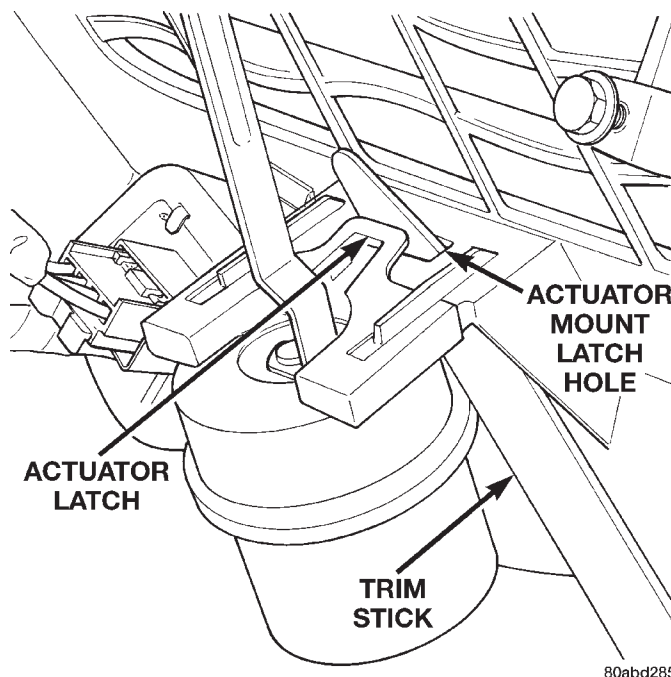

Fig. 46 Vacuum Actuator Remove/Install - Typical
- (4) Insert a trim stick or another suitable wide flat-bladed tool into the latch hole on the heater-A/C housing actuator mount (Fig. 46). Gently pry the actuator latch while pulling firmly outwards on the actuator to remove the actuator from the mount.
- (5) Rotate and tilt the vacuum actuator as required to disengage the hole on the end of the actuator link from the hooked pin on the end of the defrost door lever.
- (6) Remove the defrost door vacuum actuator from the vehicle.
- (7) Reverse the removal procedures to install.
(4) Insert a trim stick or another suitable wide flat-bladed tool into the latch hole on the heater-A/C housing actuator mount (Fig. 46). Gently pry the actuator latch while pulling firmly outwards on the actuator to remove the actuator from the mount.
(5) Rotate and tilt the vacuum actuator as required to disengage the hole on the end of the actuator link from the hooked pin on the end of the floor door lever.
(6) Remove the floor door vacuum actuator from the vehicle.
(7) Reverse the removal procedures to install.
(3) Insert a trim stick or another suitable wide flat-bladed tool into the latch hole on the heater-A/C housing actuator mount (Fig. 46). Gently pry the actuator latch while pulling firmly outwards on the actuator to remove the actuator from the mount.
(4) Rotate and tilt the vacuum actuator as required to disengage the hole on the end of the actuator link from the hooked pin on the end of the panel/demist door lever.
(5) Remove the panel/demist door vacuum actuator from the vehicle.
(6) Reverse the removal procedures to install.
(5) Rotate and tilt the vacuum actuator as required to disengage the hole on the end of the actuator link from the hooked pin on the end of the recirculation air door lever.
(6) Remove the recirculation air door vacuum actuator from the vehicle.